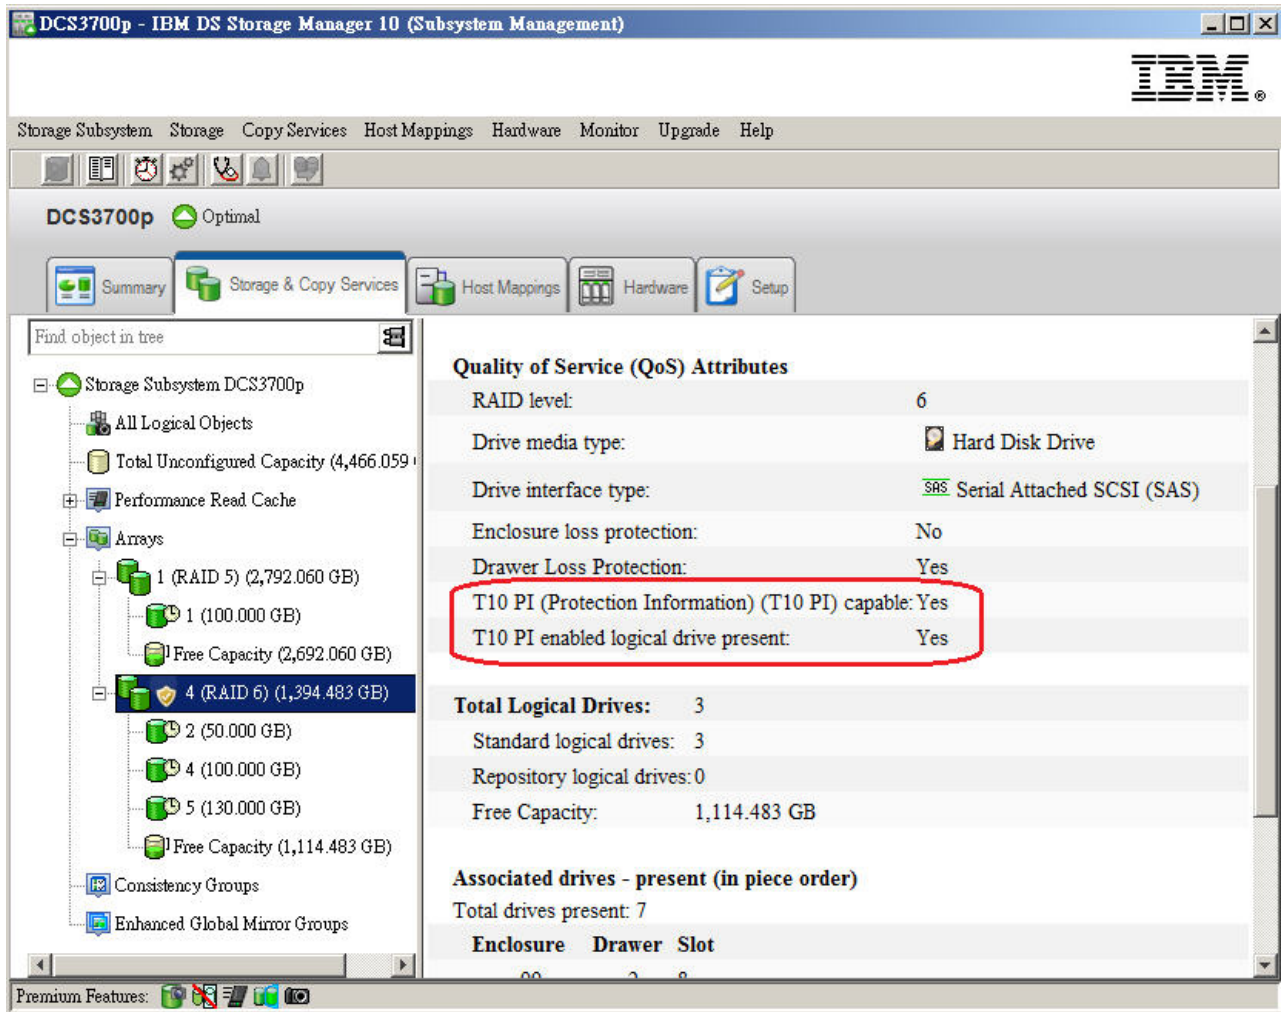

Figure 7. Example - Logical Drive 4 of RAID array 4 - T10PI not enabled
**Note:** You do not have to create all logical drives in a T10PI-capable RAID array with T10PI enabled. For example, logical drive 4 of RAID array 4 is not T10PI enabled but logical drives 2 and 5 are T10PI enabled as shown in Figure 7 on page 63. However, because you can only enable T10PI functionality at the time of creation, it is recommended to create a logical drive with T10PI enabled and then disable it at later time, if necessary.